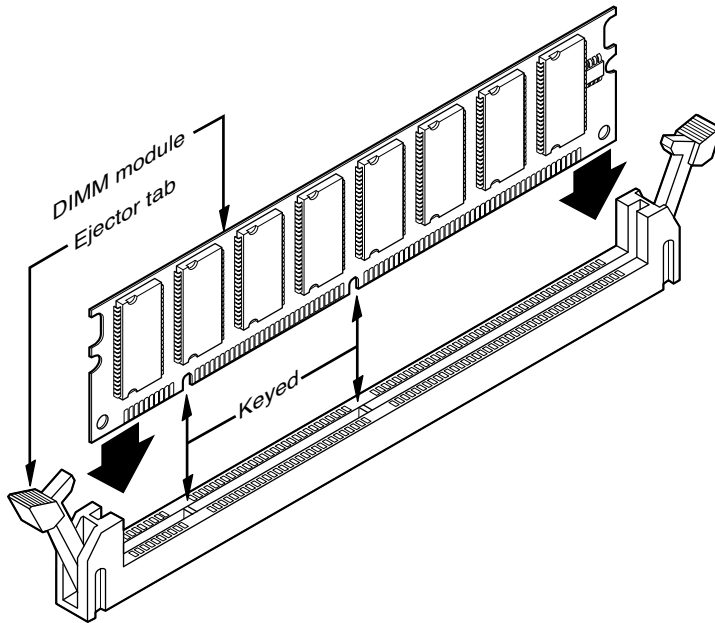

Figure 6.20 DIMM key(s) should match the protrusion(s) in the DIMM sockets.
8. To insert a module into a socket, ensure that the ejector tabs are flipped down on the socket you plan to use. DIMMs are keyed by one or more notches along the bottom connector edges that are offset from the center so they can be inserted in only one direction, as shown in Figure 6.20.
9. Push down on the module until the ejector tabs lock into place in the notch on the side of the module. It's important that you not force the module into the socket. If the module does not slip easily into the slot and then snap into place, it is probably not oriented or aligned correctly. Forcing the module could break it or the socket. Refer to Figure 6.20 for details.